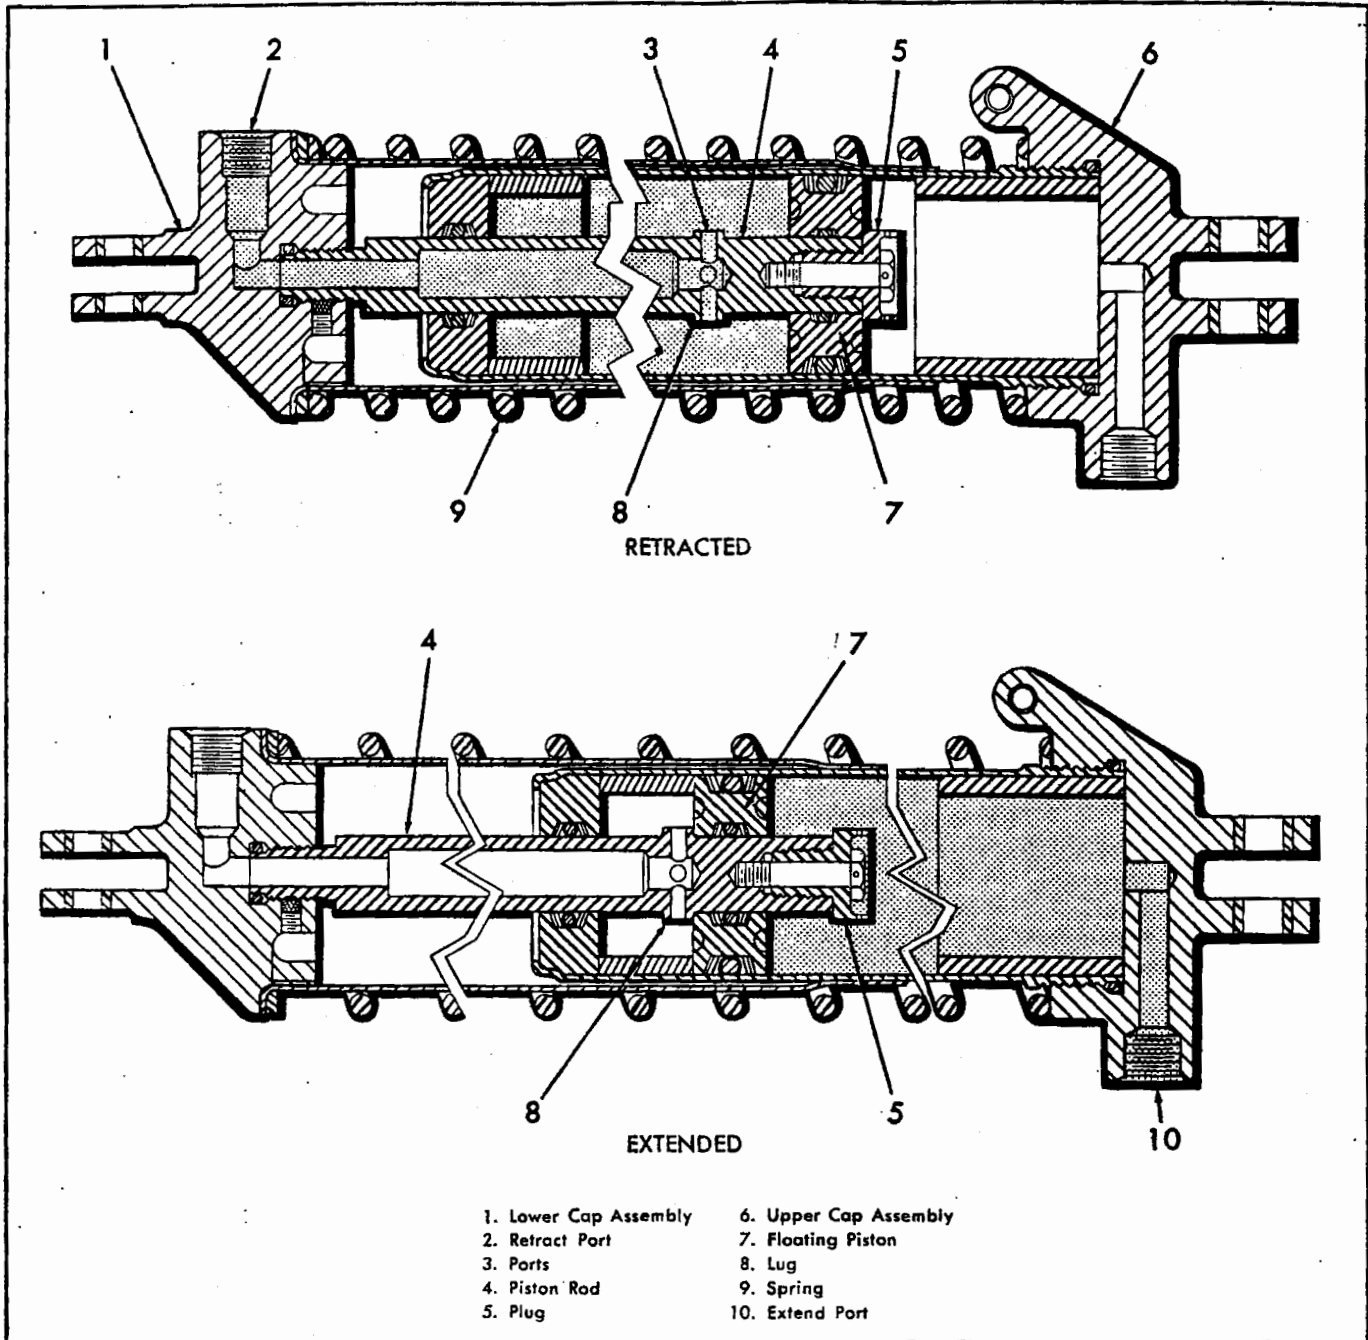

Figure 4-104. Tail Gear Actuating Cylinder.
4-1019. DESCRIPTION. (See figure 4-102.) This cylinder is designed by Chance Vought Aircraft. Their drawing number is VS-54185. This unit is located in the tail wheel well and is connected to the scissors on one end and to a support between station 253 and station 260 on the other end. The purpose of this cylinder is to extend or retract the tail wheel. For a description of the operation of this cylinder refer to figure 4-104 and the following text. With the landing gear control in the extend position, hydraulic fluid enters the port (11) and seats the floating piston (7) against the lug (6). Since the piston and rod (10) are now stationary, hydraulic pressure acts on the end cap (9) extending the cylinder. When the landing gear control is in the retract
- a. With the cylinder end cap (9) (see figure 4-104) in a vise, compress the spring and tighten a strap wrench about the outer cylinder assembly between the spring and the cylinder cap.